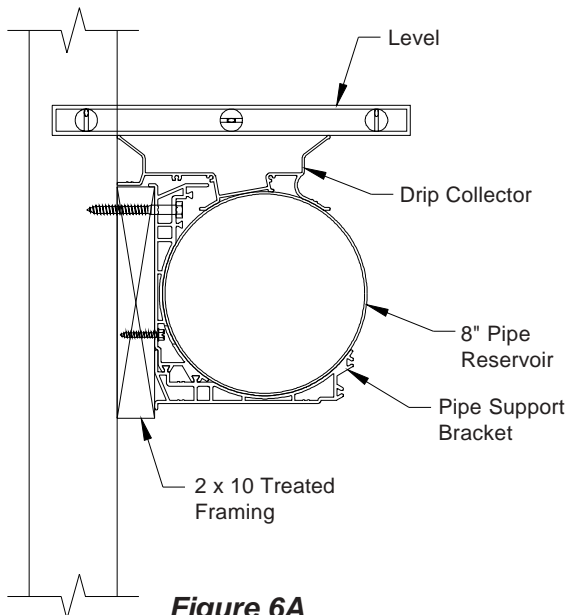

Figure 6A
8) Set the first drip collector on the 8" pipe, leaving a 1/8" gap between edge of frame opening and drip collector. Place a level across drip collector flanges and level drip collector front to back. **See Figure 6A.**